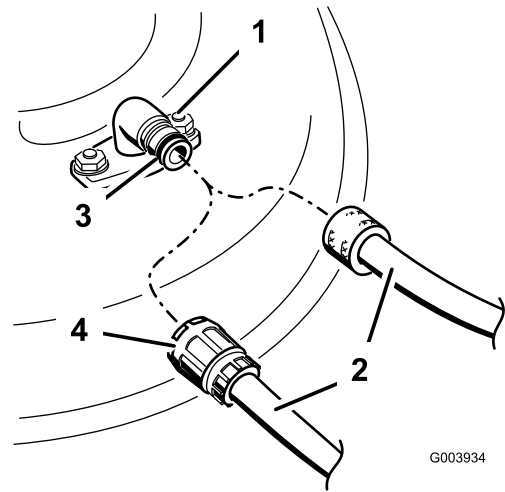

Figure 77
3. Attach the hose coupling to the end of the mower washout fitting, and turn the water on high (Figure 77).